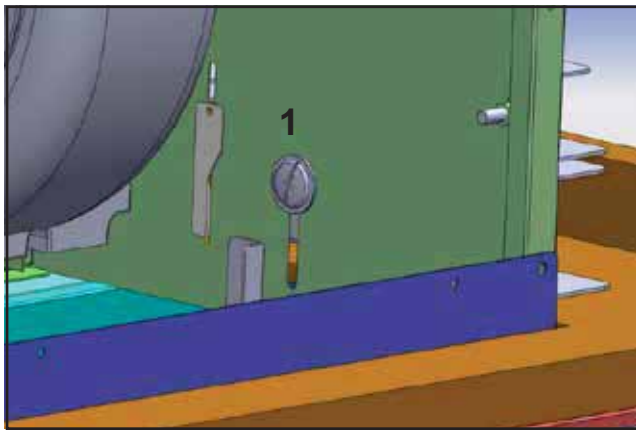

Fig.7
6) From inside the hood, secure (1) M4x8 screw into each lower installation bracket. The position of this screw is adjustable to accommodate various cabinet bottom thicknesses, Fig.7. Do not fully tighten screw yet.